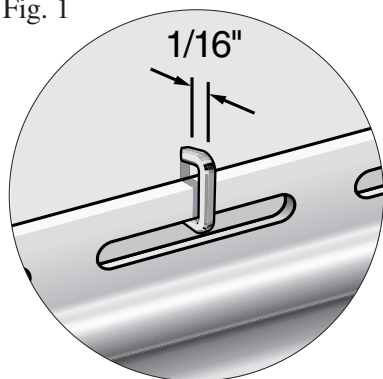

Fig. 1
- Not less than 16-gauge semi-flattened to an elliptical cross-section (Fig. 1).